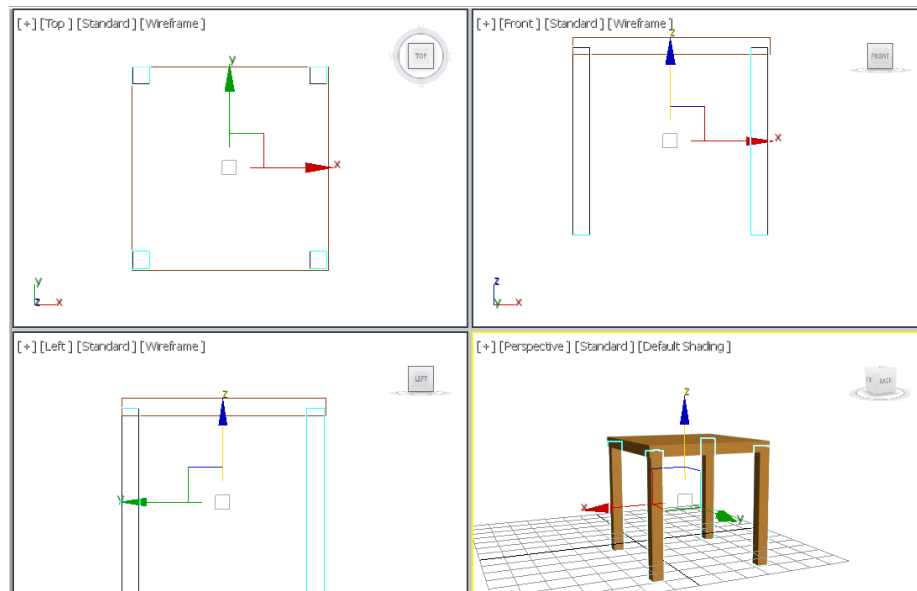

Figure 2-60 Alignment of legs with base
6. Create 3 copies of *leg01* as discussed earlier and align them, as shown in Figure 2-60.